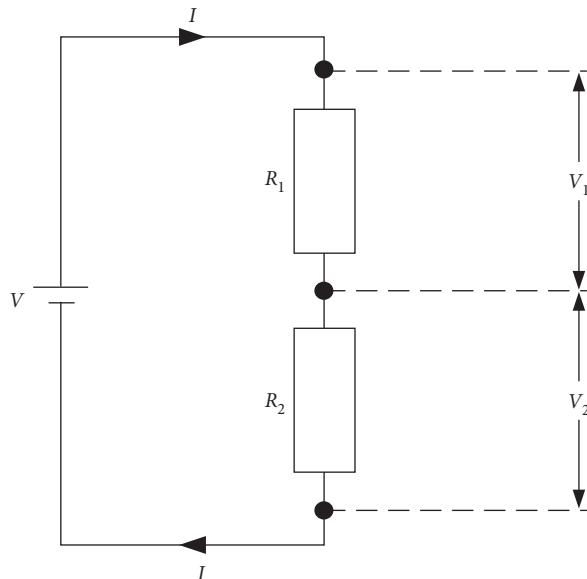

Figure 1
- 1 Set up the circuit shown in Figure 1 with R_1 as the 150Ω fixed resistor and R_2 as a variable 150Ω resistor.